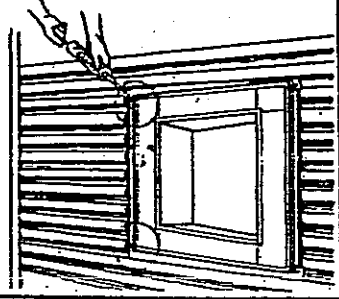

Fig. 6
6. In order to seal the installation apply silicone to the flexible corrugated infill supplied and then fit the infill between the corrugated iron and the Flashing Tray both top and bottom. A good silicone seal is also essential where the 'cut outs' meet the roof sheet. See areas marked O (Fig.6)